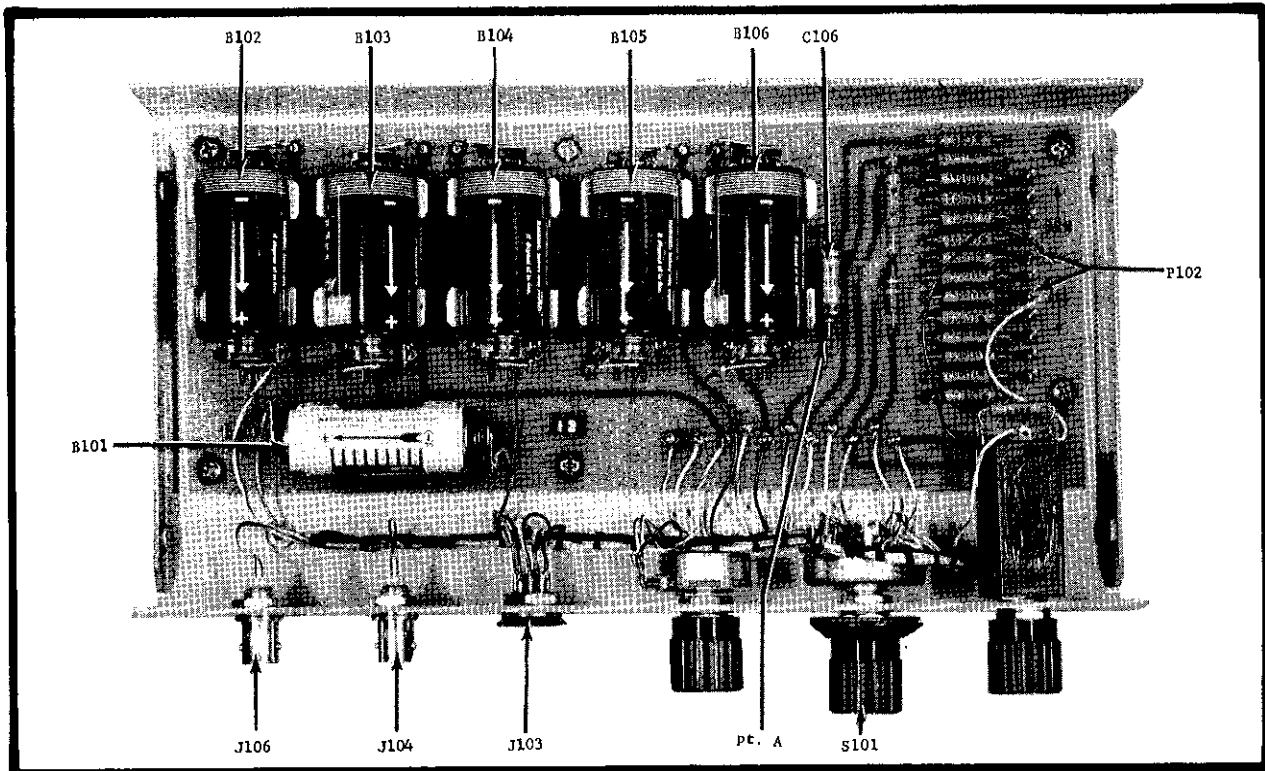

FIGURE 6. Battery, Connector, Switch and Terminal Locations Within the Power Module. Resistors are shown in Figure 7.
2. To adjust the Coarse Zero Divider, move the two connectors, P102 (Figure 6), up or down one position. Maintain one position between the connectors at all times unless a greater zero suppression range with less zero resolution is desired. The lesser the number of spaces between the connectors P102, the finer the zero resolution. The greater the number of spaces between the connectors P102, the wider the zero range. Increasing the spaces, however, decreases the life of batteries B102 and B103.
- d. The point between batteries B105 and B106 (point A, Figure 6) is now ground.